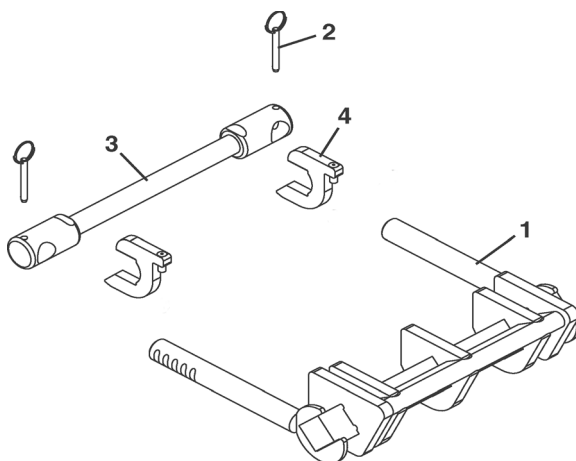

Figure 11
Typical Nose Bar Tip Up Tail Components (Figure 11)
Adjust the acorn nuts (Figure 11, item 5) on the key stops (Figure 11, item 4) to raise or lower the tip up tail assembly.